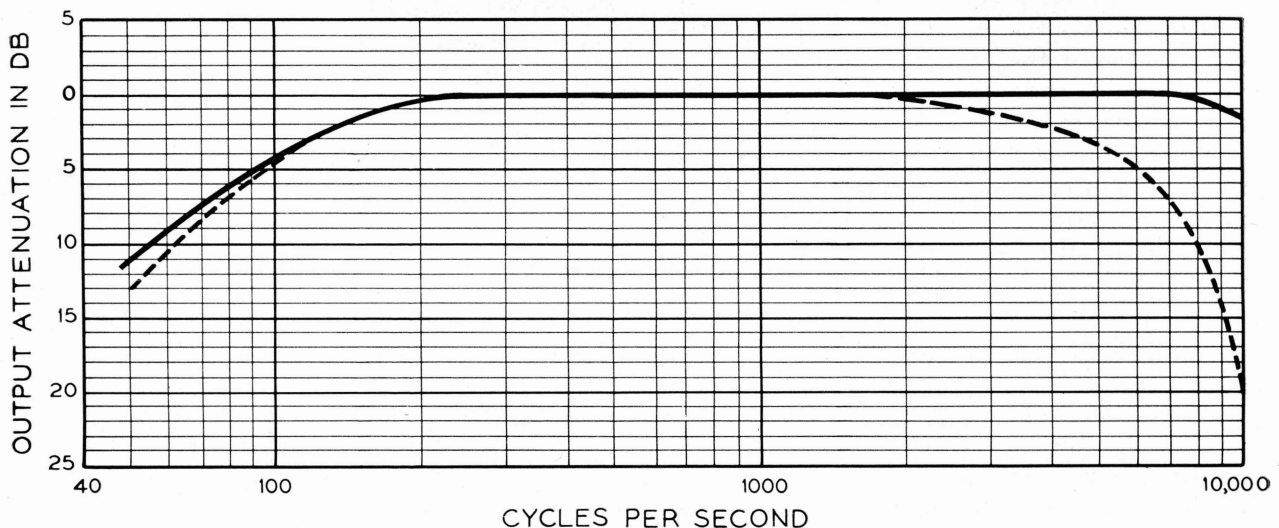

Figure 94. Radio receiver, all types, audio and overall fidelity curves.
(fig. 94)
e. The minimum requirement is that the overall fidelity of the receiver, referred to the output at 400 cps, will be within 3 db from 200 to 4,000 cps; also that the response approximates that shown in figure 94.
f. The minimum requirements are that the audio fidelity response approximates that shown in figure 94.